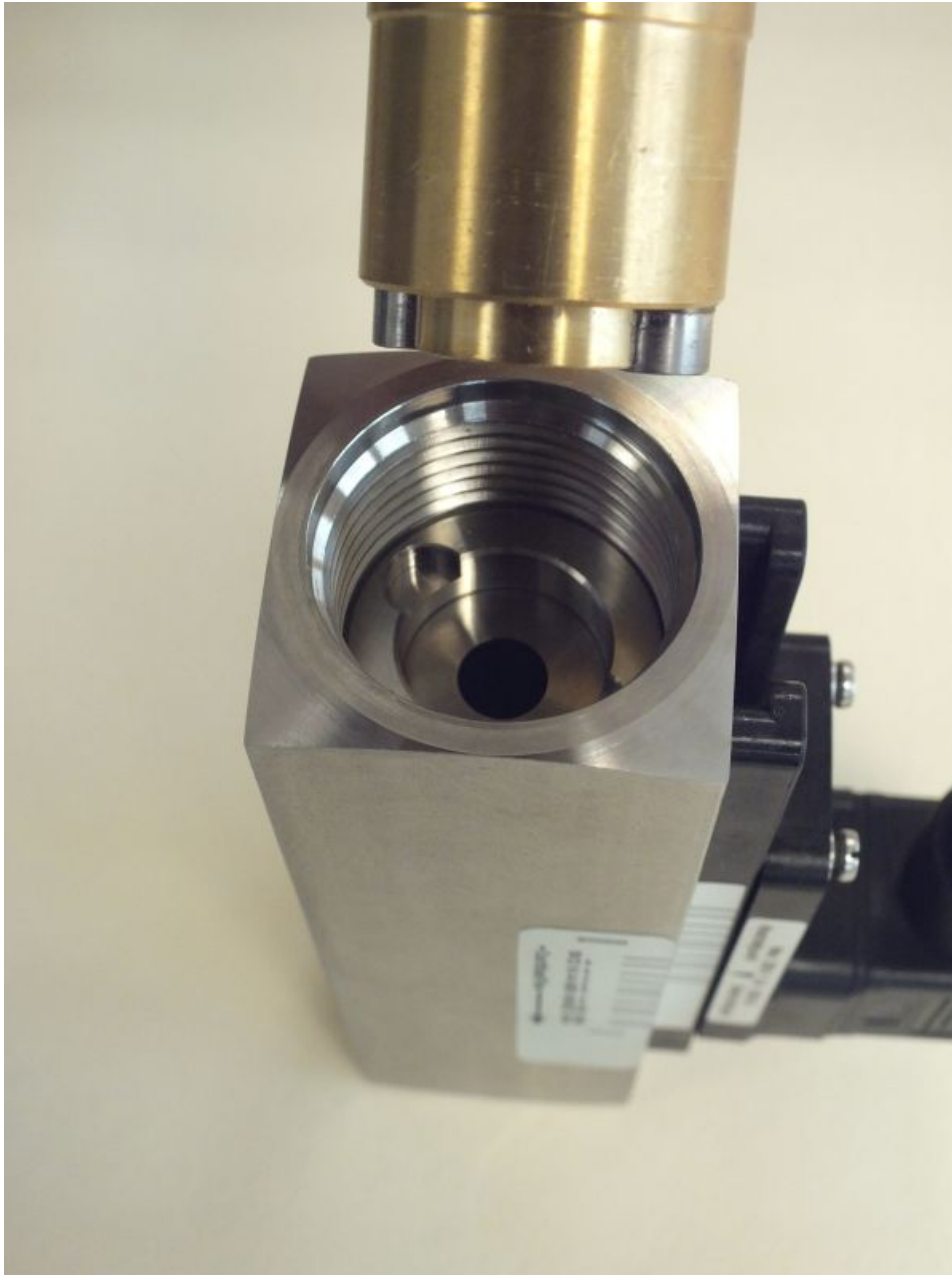

Fig. 57: Insert DKME/A-1 threaded ring insertion tool (inlet)
- 15.** Insert the DKME/A-1 threaded ring insertion tool into the device inlet (*Fig. 57*) and turn until it rest in the keyway of the threaded ring